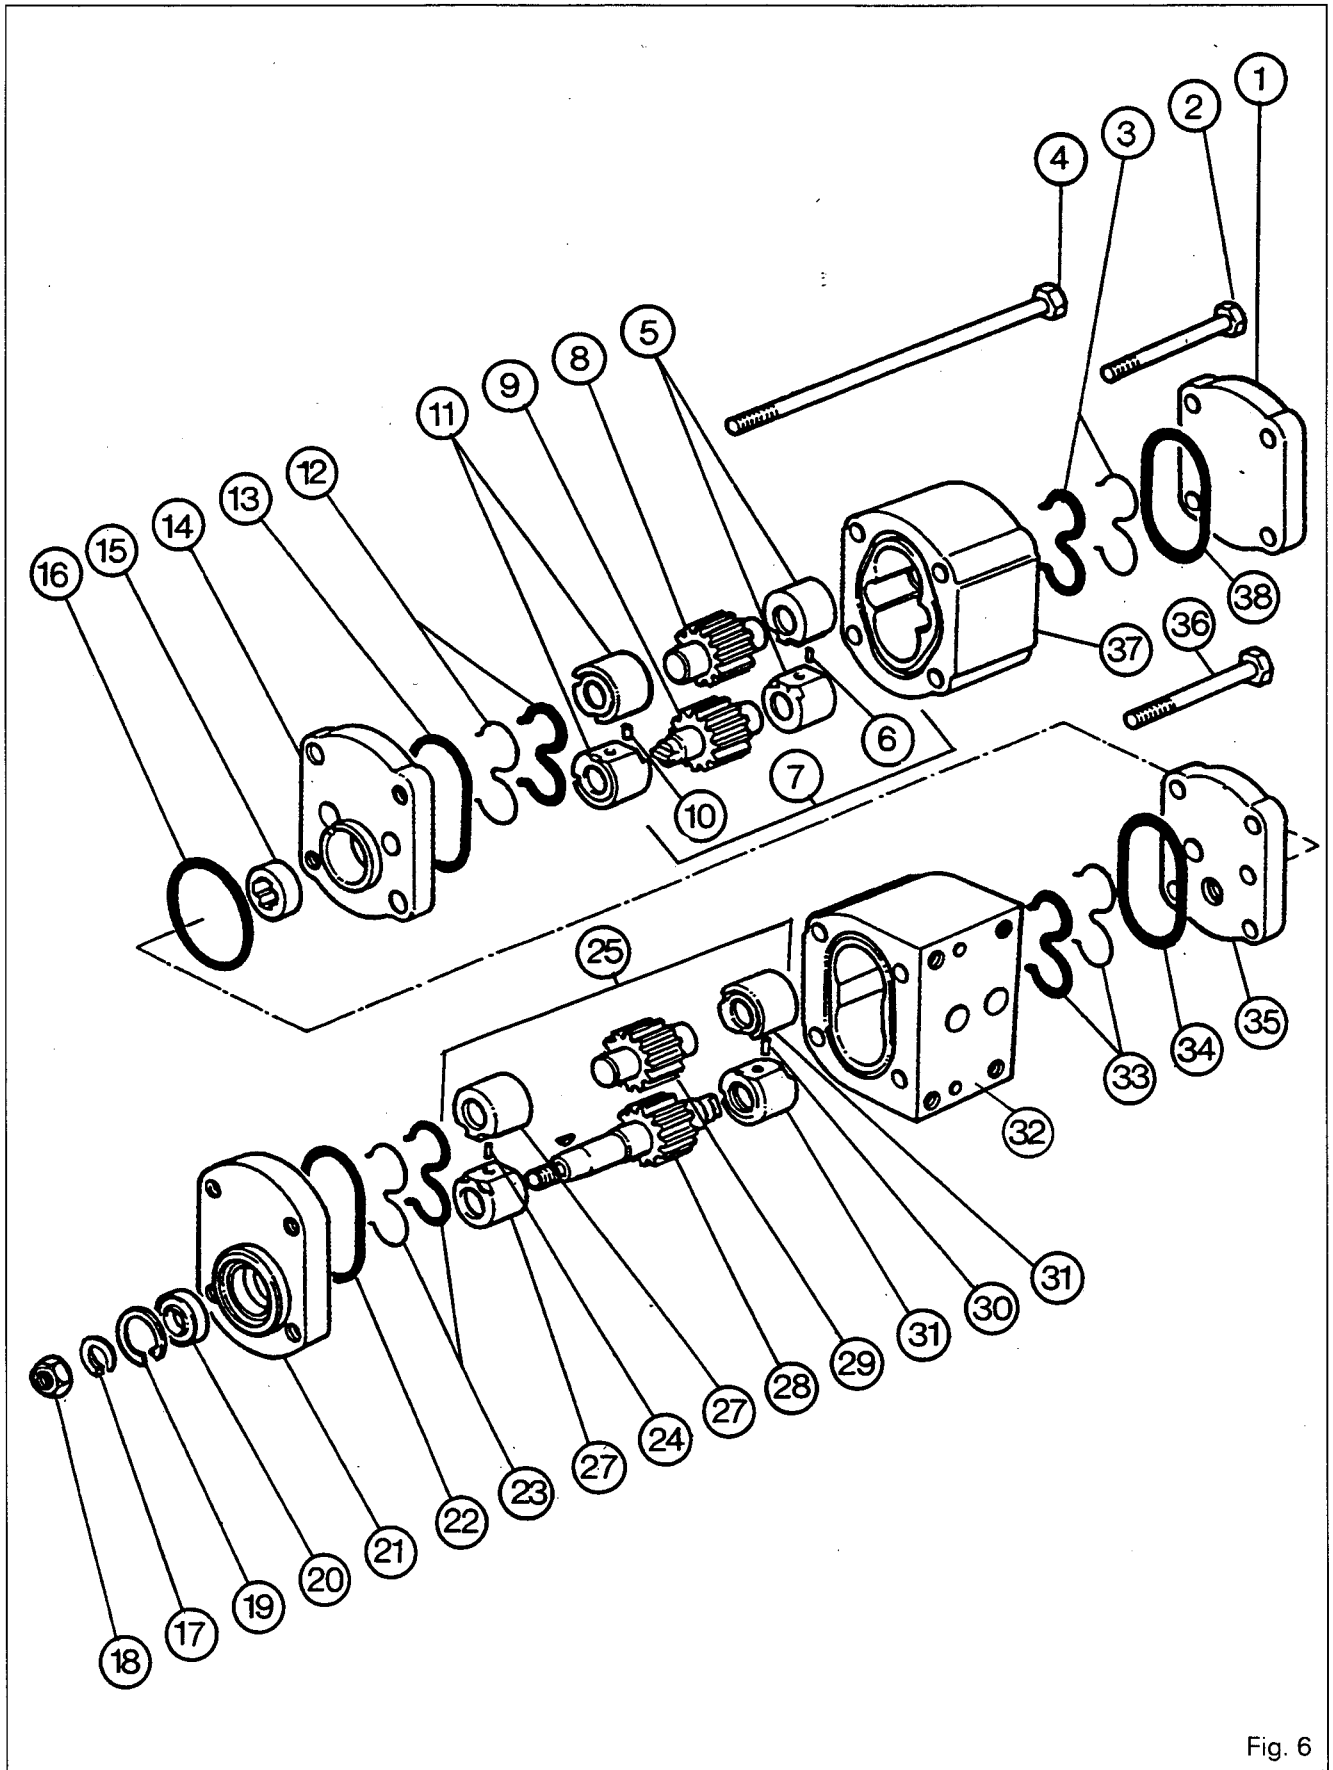

Fig. 6
#### Disassembly (Fig. 6)
**F. Reassembly and refitting of pump****Reassembly (Fig. 6)**
72. Push the seal ring (20) in the plate (21) and fit the circlip (19).